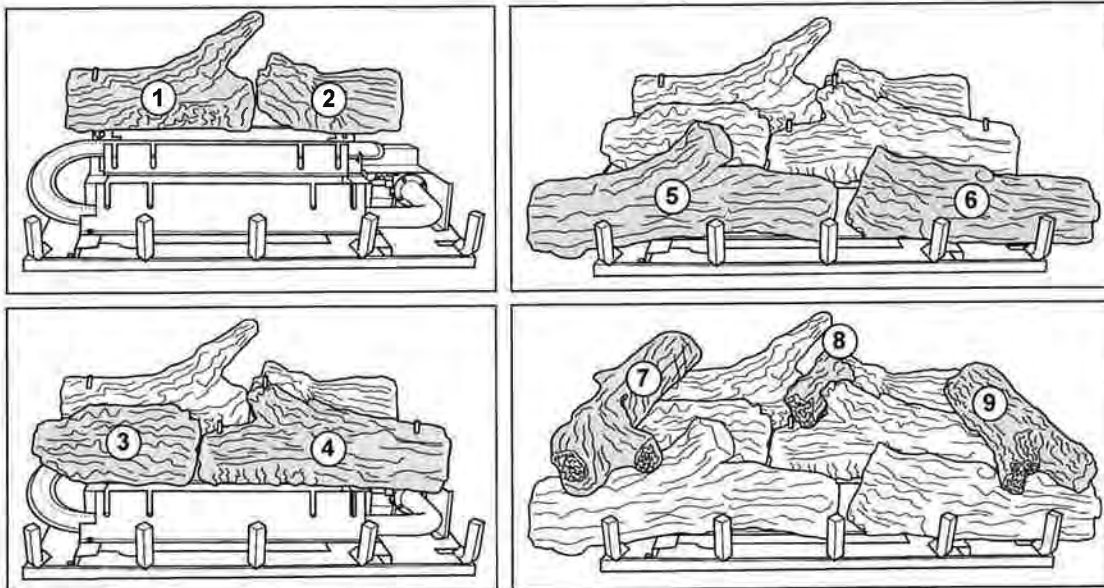

Figure 21 - Installing Logs
1. Place the slide switch on the receiver in the remote position (see Figure 21).
4. Press the ON button on the remote control to light the burner (see Figure 21). You will hear a series of beeps. This will also "learn", or program, the remote and the receiver.